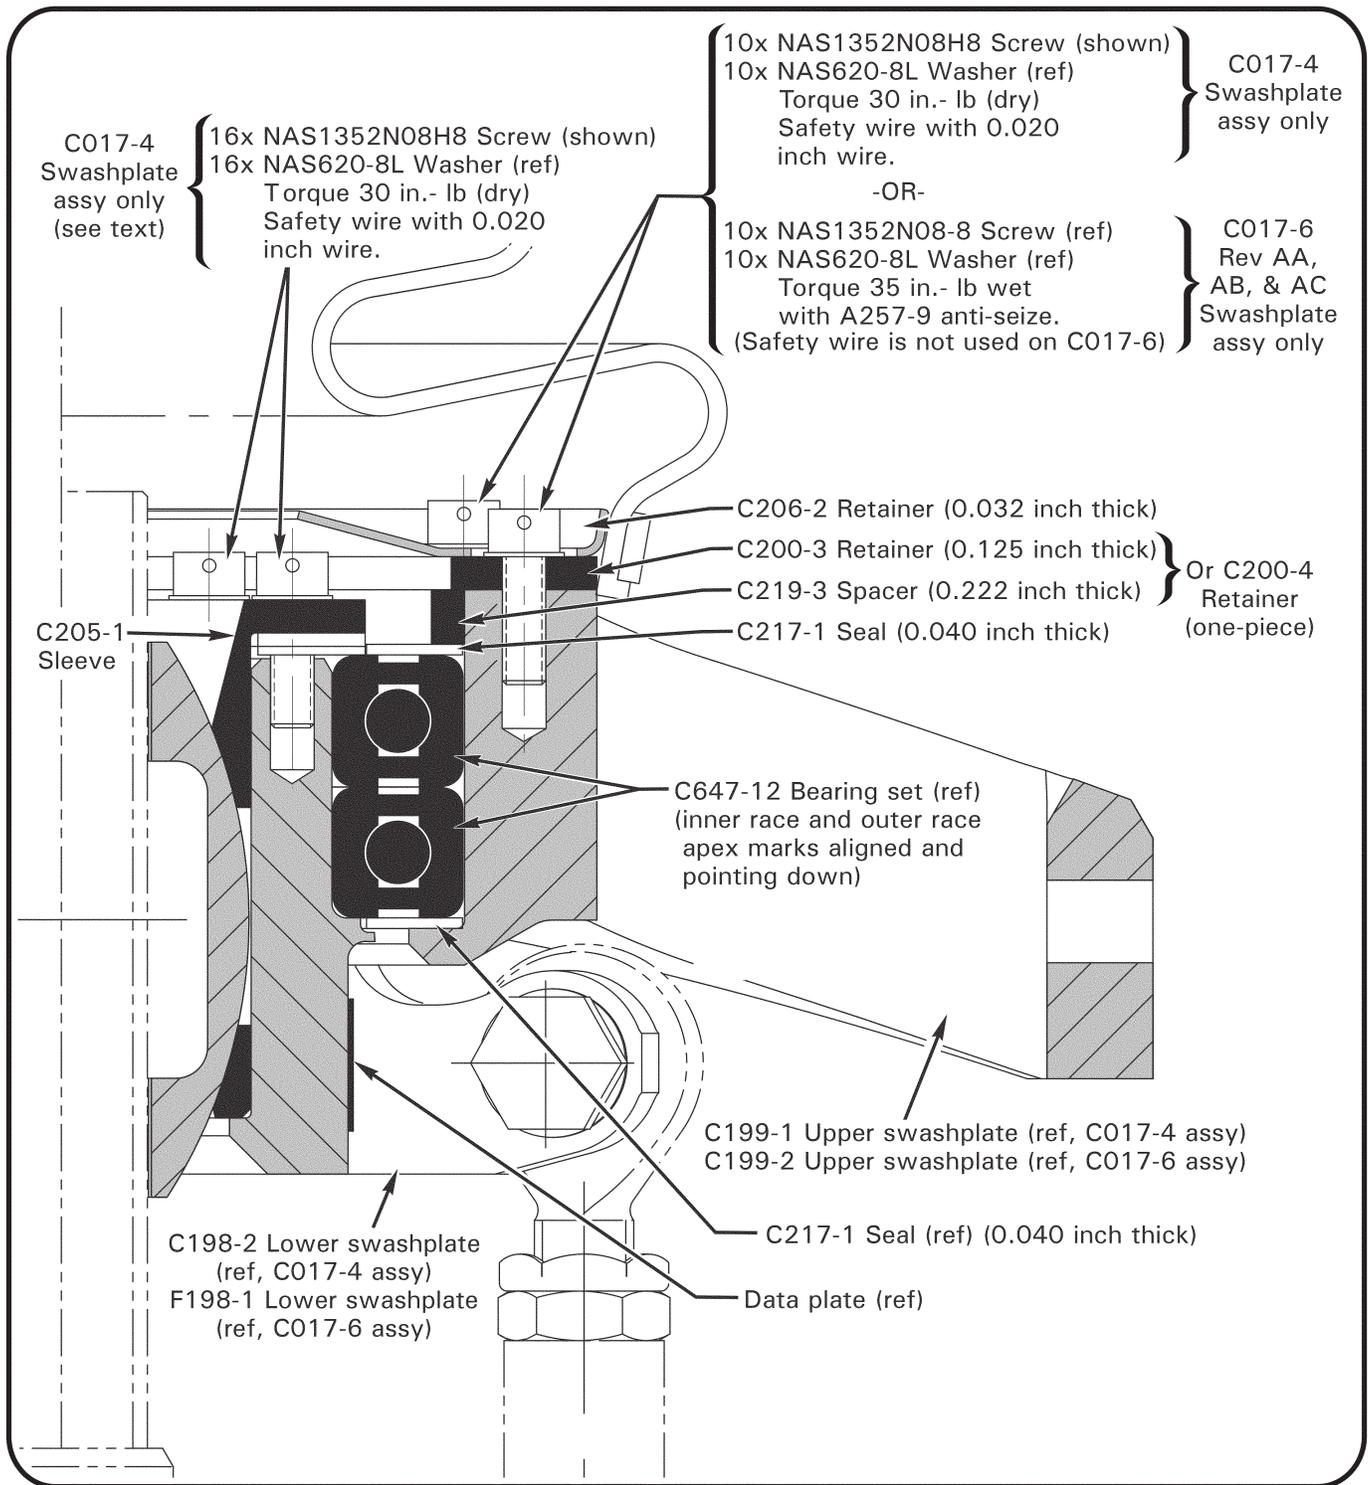

FIGURE 1-2B C017-4 SWASHPLATE ASSEMBLY, AND C017-6 REV AA, AB, & AC SWASHPLATE ASSEMBLY, APPROVED B900-13 MODIFICATION
5. Refer to Figure 1-2B. Remove (10) NAS1352 screws (with washers) securing C206-2 & C200-3 retainers to upper swashplate. Raise both retainers and C219-3 spacer and either temporarily secure to chord arm (if on helicopter) or set aside (if on workbench).
8. Position C217-1 seal atop grease followed by C219-3 spacer, C200-3 retainer, and NAS1352N08-8 screws with NAS620-8L washers. Finger-tighten all screws, then snug any (4) screws that are 90° apart, depressing seal and forcing grease into underlying bearing set. Rotate upper swashplate several revolutions. Wipe off excess grease.